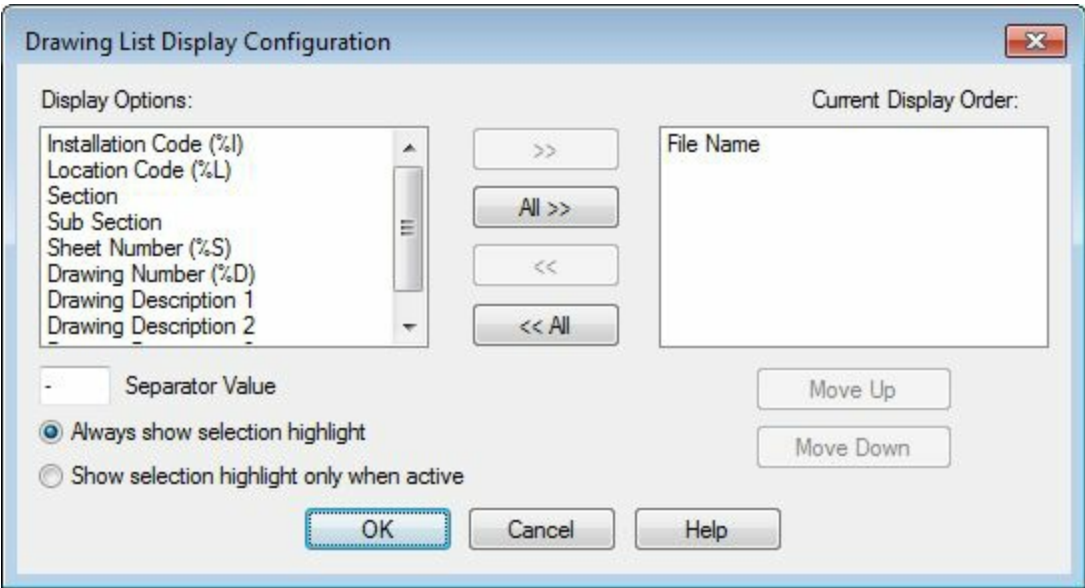

Figure-28. Drawing List Display Configuration
- Click on the **Drawing List Display Configuration** button. The **Drawing List Display Configuration** dialog box will be displayed as shown in Figure-28.